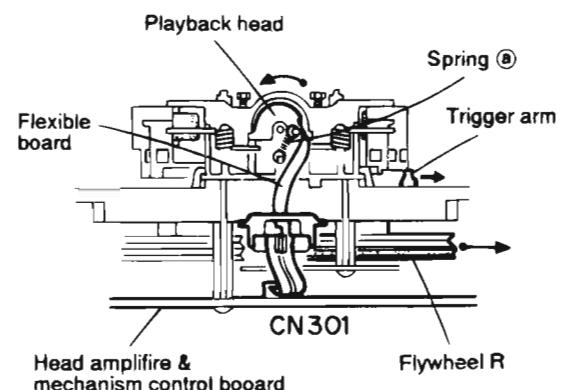
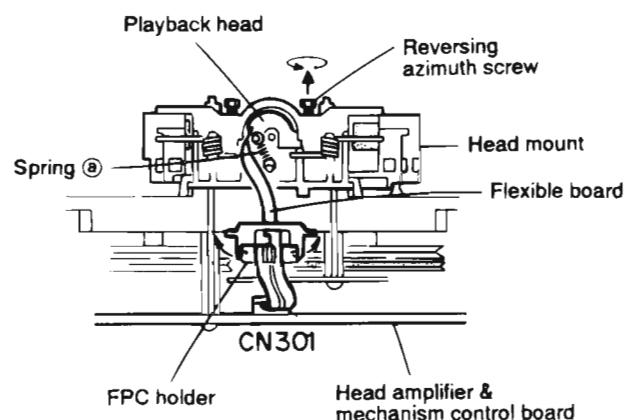

Fig 2
Fig 3
2. When the flywheel R is rotated in counterclockwise direction, the playback head will be turned in counterclockwise direction from the position in Fig 2 to that in Fig 3.
6. Remove the spring ② from behind the playback head.
1. Reassemble the playback head from the front of the head mount to the position as shown in Fig 3.
3. Set the spring ② from behind the playback head.
4. Attach the flexible P.C.board to the chassis base, and fix it with the FPC holder as shown in Fig 3.